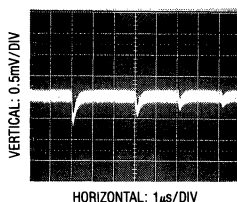

Figure 15. Adequate Reference Settling
1. Transients on the reference inputs caused by the capacitive switching currents must settle completely during each bit test (each 4 ACLK cycles). Figures 15 and 16 show examples of both adequate and poor settling. Using a slower ACLK will allow more time for the reference to settle. However, even at the maximum ACLK rate of 4MHz most references and op amps can be made to settle within the $1\mu\text{s}$ bit time. For example the LT1027 will settle adequately or with a $10\mu\text{F}$ bypass capacitor at REF+ the LT1021 can also be used.